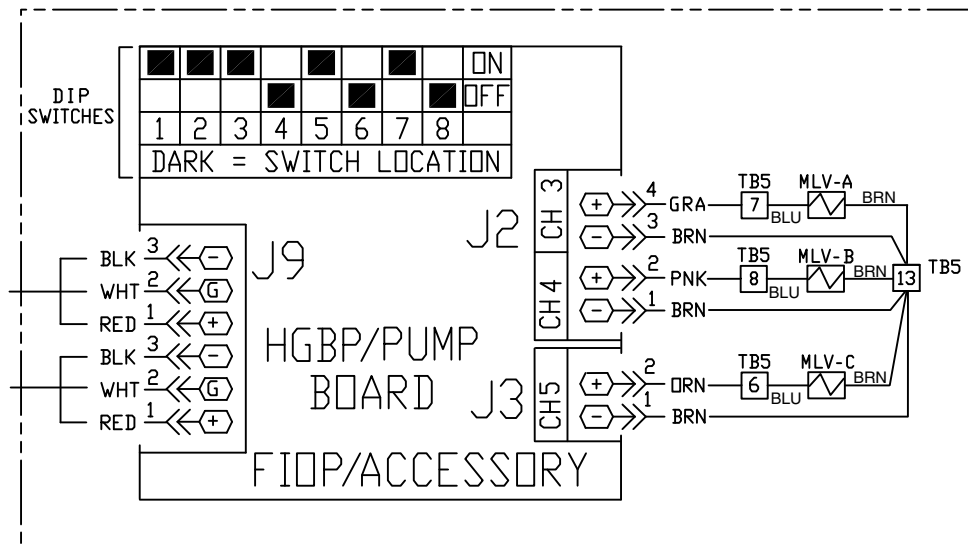
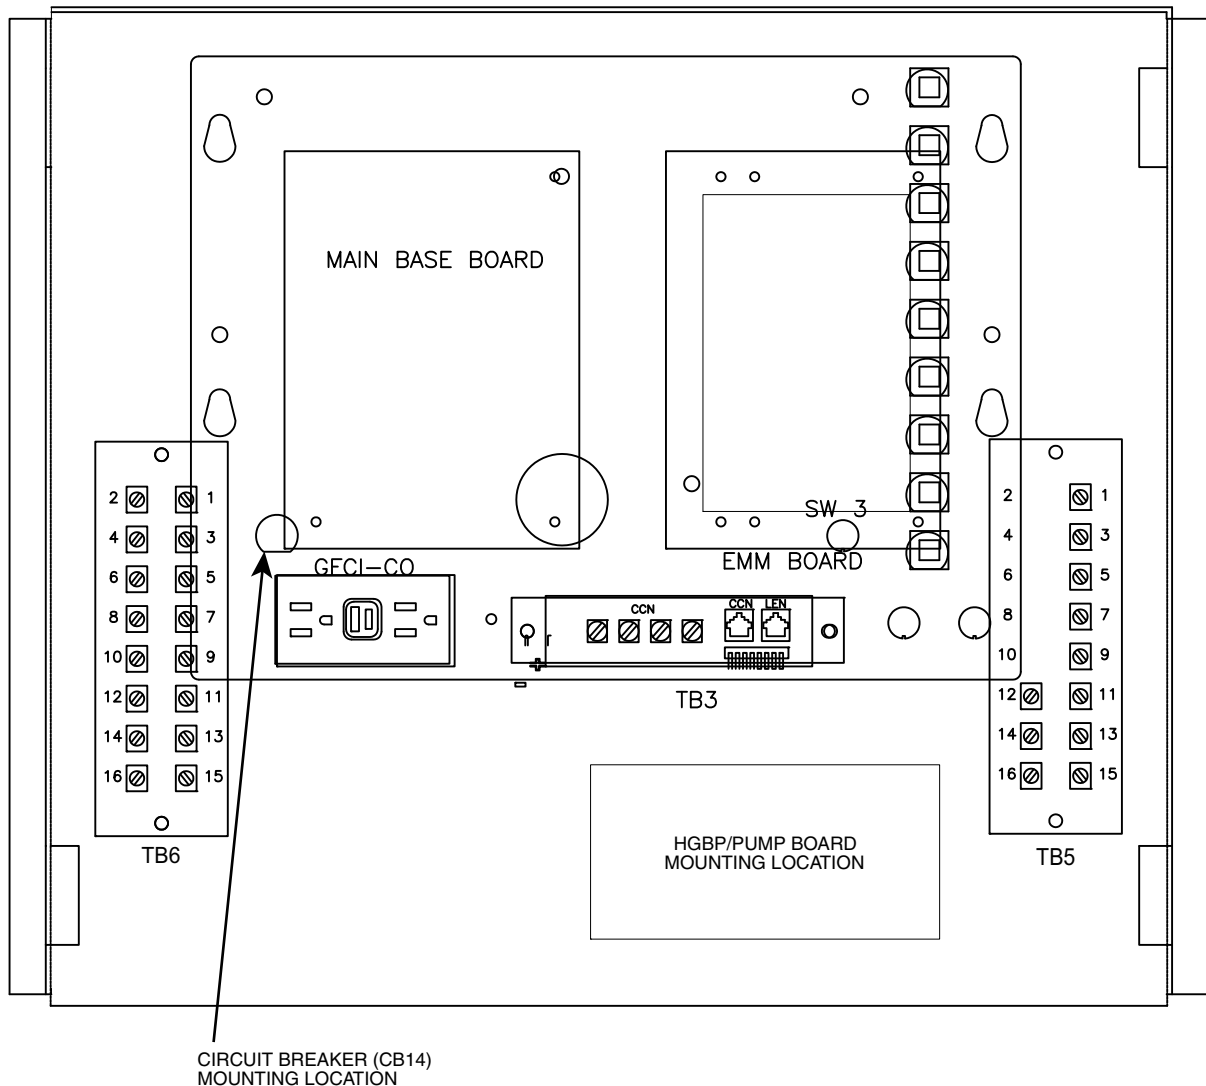

Fig. 5 — HGBP/Pump Board Address Switch and Wiring for Minimum Load Solenoid Output
Fig. 6 — HGBP/Pump Board and CB14 Mounting Location
3. Set the board address of the HGBP/Pump Board by positioning the dual in-line package (DIP) switches to the correct settings. See Fig. 5. Mount the HGBP/Pump board in the main control panel with the No. 8 screws provided (mounting standoffs required for 30XA080-120: 200 v, 230 v, 380 v and 30XA140-501: all voltages). See Fig. 6 and 7 for the board mounting location. The display mounting bracket can be removed by loosening the 4 mounting screws on the corners.
4. Mount the 24-v circuit breaker (CB14) in the CB14 mounting hole on the display bracket. See Fig. 6 and 7 for the mounting hole location.
6. Using harness TH70400864 provided in the kit, connect TB5 pins 6 (30XA400, 450, and 500 only), 7, 8, and 13 to HGBP/Pump board J2 CH3, CH4 and J3 CH5 (30XA400, 450, and 500 only). Use the pins on the underside of TB5. See Fig. 5.